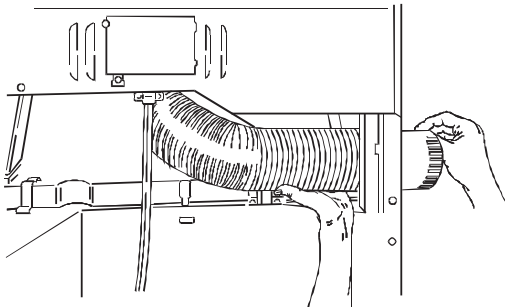

Figure 5
6. Guide flex pipe through the hole opening in panel. See Figure 5.